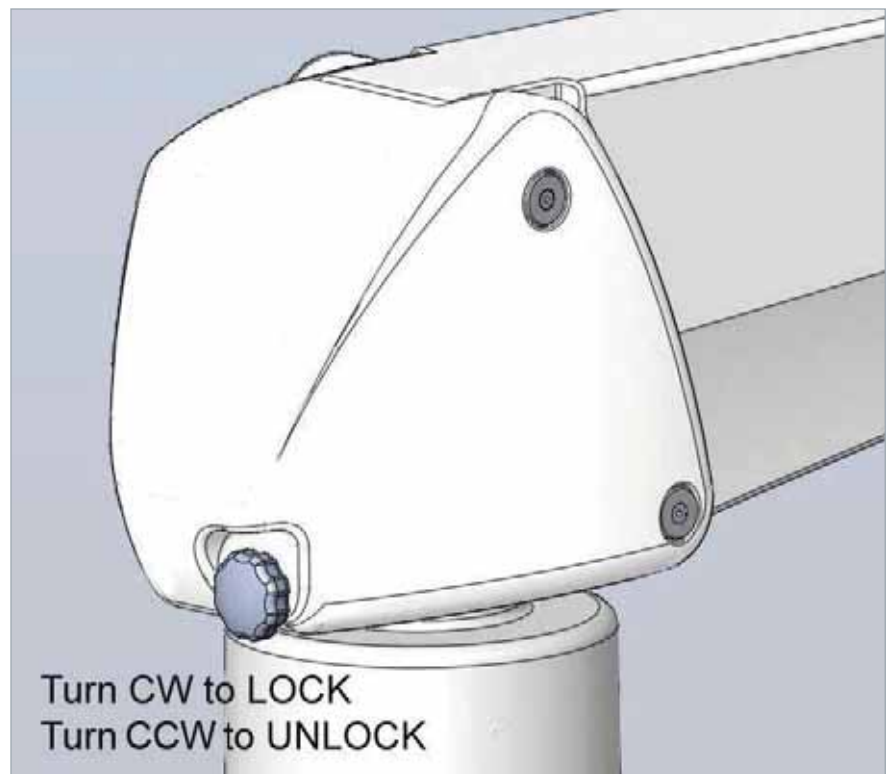

Figure 8: Crane Rotation Brake
1. Unlock the rotation brake by turning knob CCW (*See Figure 8*)
5. Lock crane rotation by turning knob CW (See Figure 8).